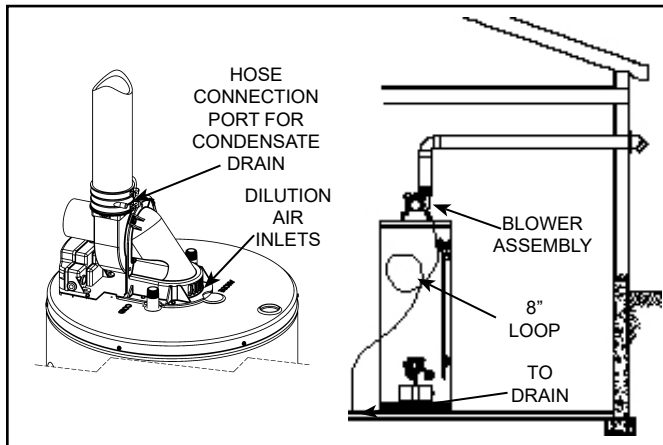

Figure 28.
1. This power vented water heater comes with blower assembly installed (see Figure 28).
This heater requires room air to lower the flue gas temperatures before the gases pass through the vent system. The dilution air inlets are located on the rear of the blower assembly (see Figure 2 and Figure 28).
Condensate formation does not occur in all installations of power vented water heaters, but should be drained on installations where it can form in the venting system. Condensation in the venting system of power vented water heaters is dependent upon installation conditions including, but not limited to, ambient temperature and humidity of installation location, ambient temperature and humidity of venting space, vent discharge and slope, and product usage. In certain conditions, installations in unconditioned space or having long horizontal or vertical vent runs can accumulate condensate. Long lengths of venting that pass through cool/cold areas will experience condensation. The vent pipe should be sloped upwards away from the blower assembly, then adequate means for draining and disposing of the condensate needs to be made by the installer. If installation conditions cause condensation, install a condensate trap loop approximately 8" in diameter using 3/8" plastic hose. Connect the hose to the built-in drain port of the rubber coupling of the blower assembly (see Figure 28). Loop the hose in a vertical position as shown. The tube loop must be filled with water at least half way prior to operating the heater. Ensure the end of the tube has access to a drain as condensate will flow from the end. Secure the tubing to the side of the heater. Prior to operating the water heater, make sure the removable cap is installed on the drain port (if a drain hose is not needed).